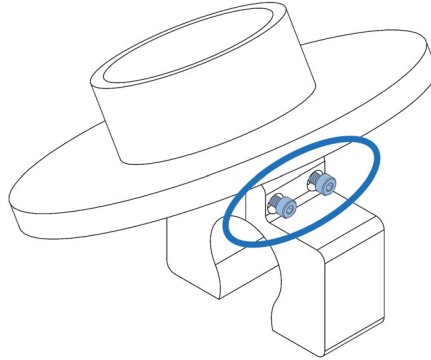

Figure 23 - Tape Jig Screws
1. Obtain the Tape Jig and loosen its screws using a 4 mm hexagonal wrench. Refer to **Figure 23**.